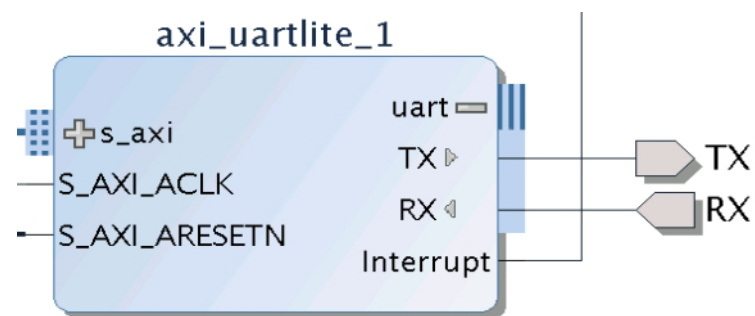

Figure 50: Created Port for RX
6. Create a port for **RX**. In the create port options, select the direction input and type as **Data**. Your AXI UARTLite IP will be similar to Figure 50.